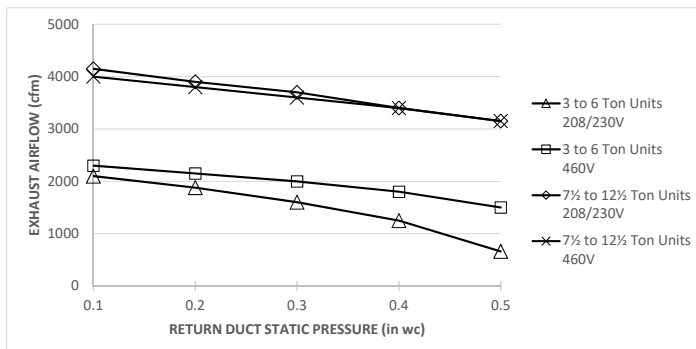

FIGURE 7 – POWER EXHAUST PERFORMANCE
6. Test power exhaust operation by setting the power exhaust set point on the economizer controller to 0%. Power exhaust performance is shown in Fig 7.